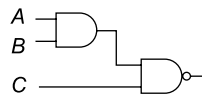

Fig. 6.58
24. Which function is implemented by the circuit as shown in Fig. 6.58?